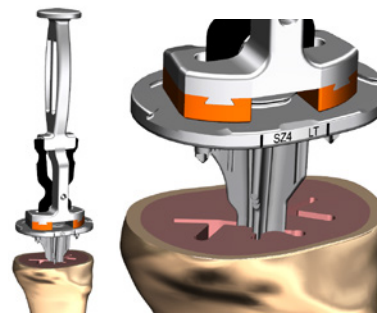

Figure 62
- 3 Slowly impact the porous tibia implant roughly $\frac{3}{4}$ of the way down to the proximal tibia surface. While impacting, ensure that the inferior surface of the implant and proximal tibia are parallel (Figure 62). Also be sure to continually perform visual checks to ensure proper alignment is maintained throughout impaction.